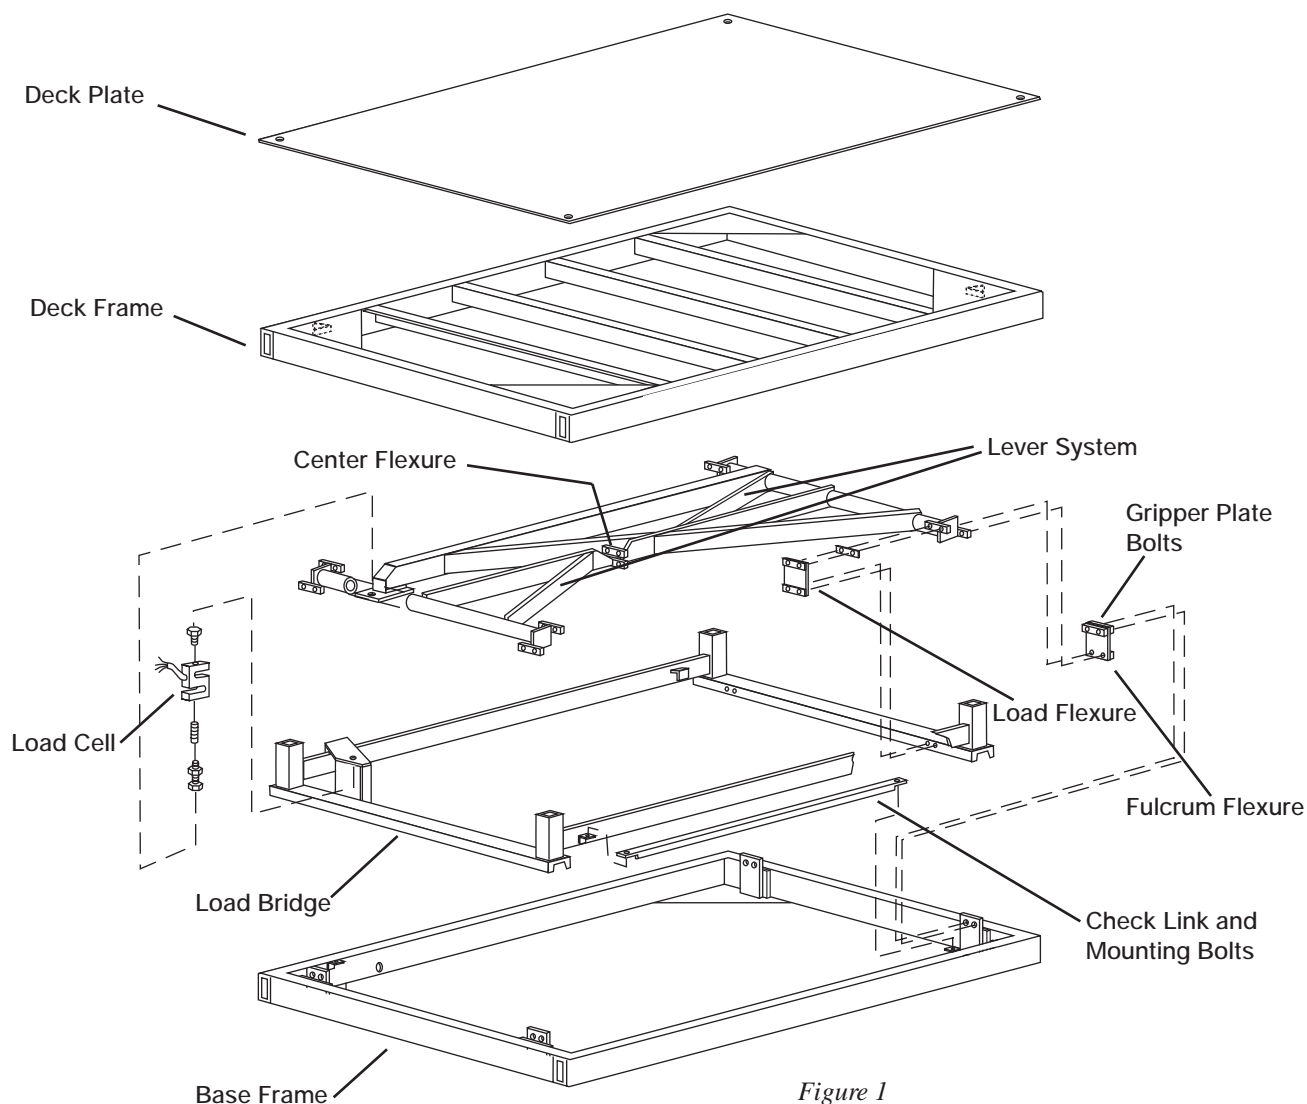

Figure 1
The RoughDeck FXB has six major components (as shown in Figure 1):
4. Loosen all check link mounting bolts (see Figure 1).
5. Loosen top and bottom load flexure gripper plate bolts on corner to be changed (see Figure 1). You do not have to completely remove bolts.